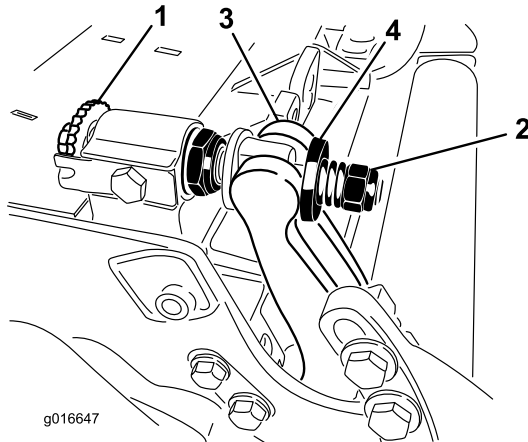

Figure 28
1. Turn bedbar adjuster screws, counterclockwise, to back bedknife away from reel (Figure 28).